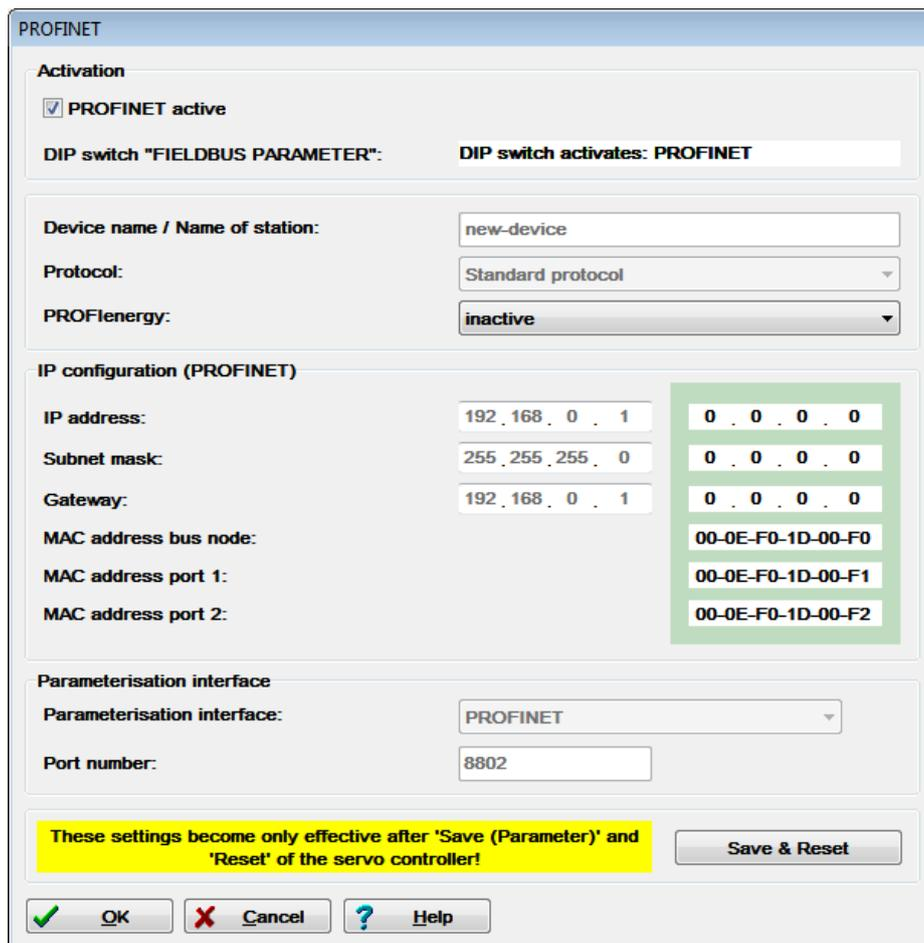

Figure 10: Settings of the operating parameters under PROFINET-IO
The operating parameters menu can be opened in the Afag SE-Commander via the menu bar under **Parameters - Field bus - PROFINET – Operation parameters**. *Figure 10* shows the window of the parameterisation program for the configuration of the operating parameters.
- The parameterisation interface for the operating parameters (see *Figure 10*) is set to **ProfiNet**.
4. Enter the IP address of the servo drive to which you want to connect into the UDP window. In order to connect to the servo drive with the settings in our example in *Figure 10*, use the following setting: